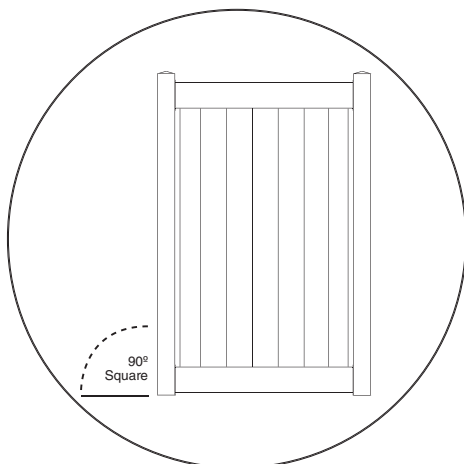

Figure 3
- 4.) Make sure the gate is square (*Figure 3*) and mark screw position in each of four corners. Make sure the screw placement allows for connection of the rail to the upright. (*Figure 4*)
- 5.) Secure the rails to the uprights using #2 square drive bit with supplied screws (20) for the flat rails or #10 x 3/4 in. screws (40) for the decorative rail. Repeat in each of the four corners on the front side of the gate and for the decorative rail on the opposite side of the gate (eight corners).